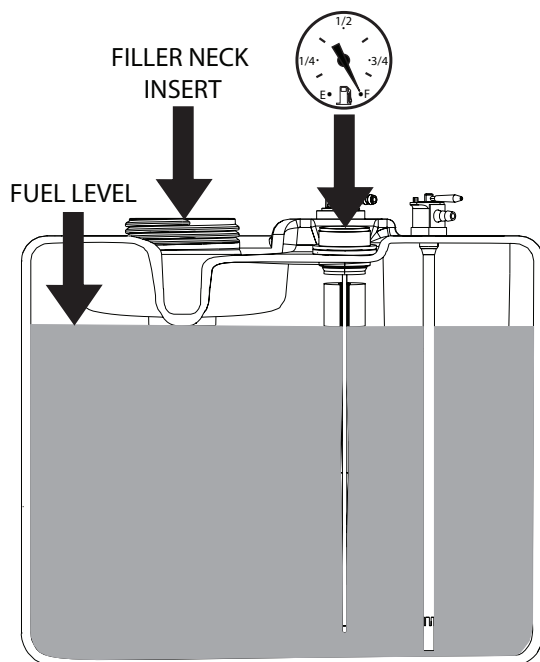

Figure 6-5. C.A.R.B. / EPA Phase 3 Fuel Level
Fill the fuel tank to the bottom of the filler neck insert (approximately 6 gallons indicating Full (F) on the fuel gauge) at the beginning of each operating day. See Figure 6-5. Do not overfill. Use clean, fresh unleaded gasoline with a minimum octane rating of 87 and a maximum of 10% Ethanol.